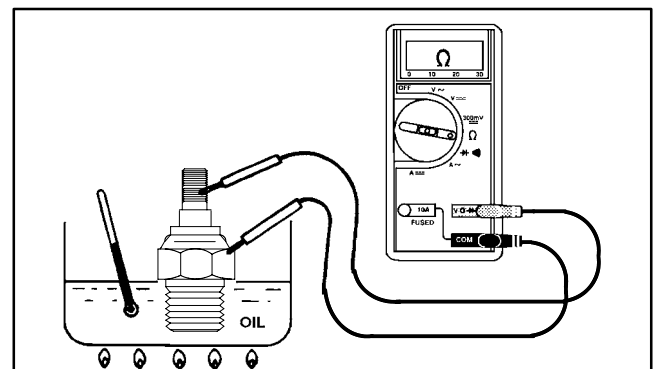

Figure 49
3. Put the end of the sender in a container of oil with a thermometer and slowly heat the oil (Fig. 49).